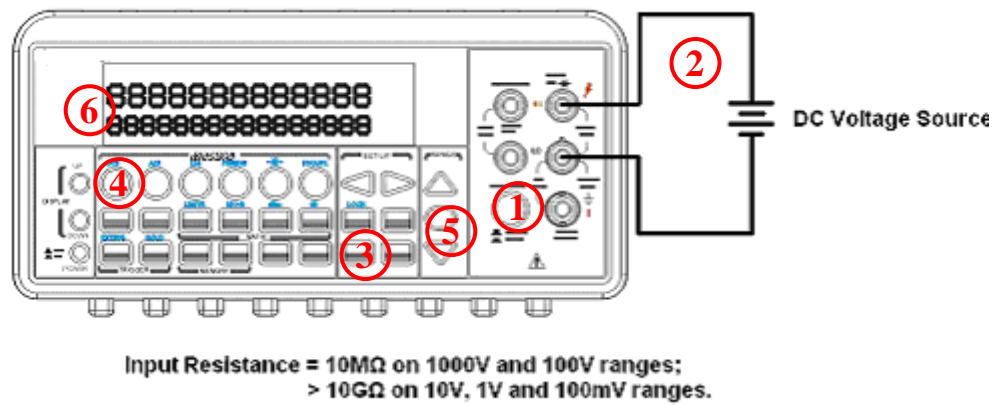
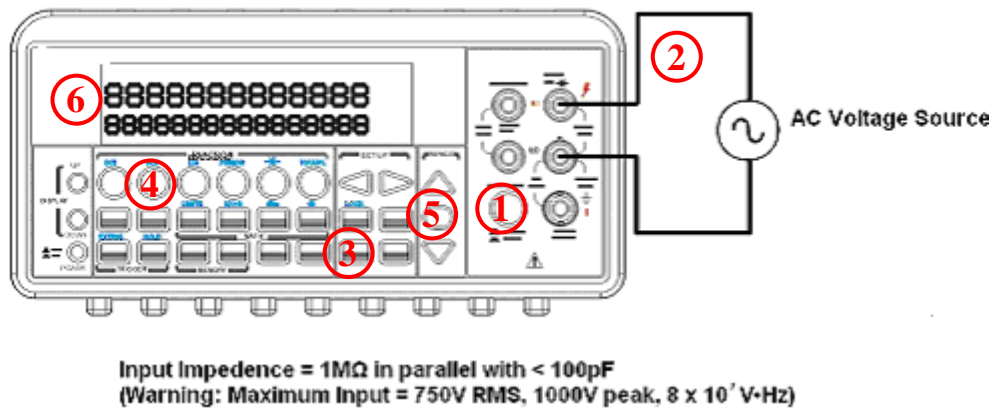
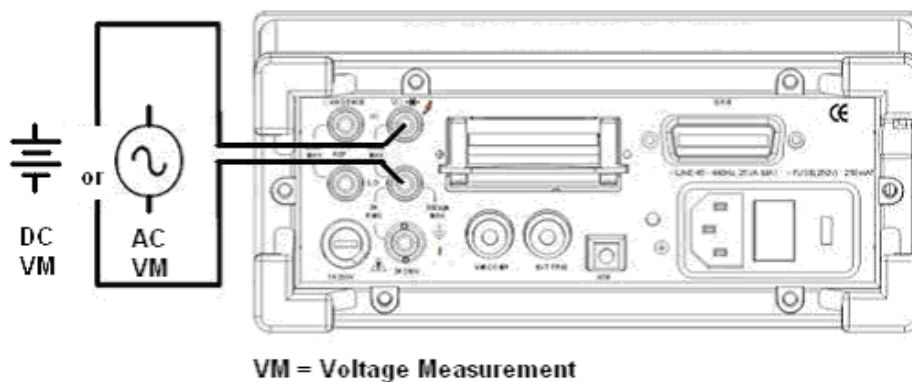

Figure 3-1
Figure 3-2
Figure 3-3
The ranges for DC voltage measurements in DL-2060 are 100mV, 1V, 10V, 100V and 1000V. For AC voltage measurements, the ranges are 100mV to 750V AC-Coupled TRMS, or 1000V peak. **Figures 3-1** and **3-2** shows the locations of the buttons needed and message display for voltage measurement. **Figure 3-3** shows the location of the input terminals on the rear panel.
- ① Selects input signal connections on front or rear panel.
- ② Connect the test leads to the terminals as shown in **Figure 3-1**(DC) or **Figure 3-2** (AC).
- ③ Set RESOLUTION of DCV (Refer to 3.1.3), BAND WIDTH of ACV (Refer to 3.1.2.1) or skip this step if default is to be used.
- ④ Press DCV or ACV button for DC or AC voltage measuring.
- ⑤ Select the auto-range function by pressing AUTO button on the front panel or use Δ ∇ buttons to select desired range.
- ⑥ Connect test leads to your source signal and observe the reading shown on the display. If the input signal is beyond the allowed range, an overflow message "OVLD" will be displayed.
※ Note: The rear panel terminals can also be used via the same procedures as the front panel terminals. (Refer to Figure 3.3)
- ② Connect the test leads to the terminals as shown in **Figure 3-2**.
- ③ Set RESOLUTION (Refer to 3.1.1) and INPUT JACK. Or skip this step if default is to be used.
- ④ Press FREQ button for frequency measurement or SHIFT + PERIOD(FREQ) buttons for period measurement.
- ⑤ Select the auto-range function by pressing AUTO button on the front panel or use \triangle and ∇ buttons to select the desired range.
※ Note: The rear terminal panel can also be used via the same procedures as the front panel. (Please refer to **Figure 3-3**)
- ① Connect the test leads to the terminals as shown in **Figure 3-2**.
- ② Set REConnect the input signal as the following figure.
- ③ Set threshold resistance via pressing CONFIG + CONT buttons. (Or skip this step if default resistance is to be used) When ready, press ENTER button.
- ④ Press CONT button.
- ⑤ The measured value will be shown on the display automatically. Meter “beeps” when measured resistance value is lower than threshold value.